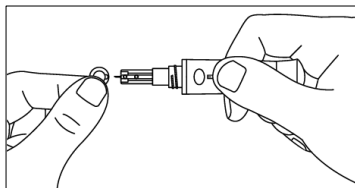

Fig 5.31
Step 3: Hold the lancet firmly in the lancet holder and twist the safety cap of the lancet, then pull the safety cap off. Save the safety tab for lancet disposal. (Ref Fig 5.31)